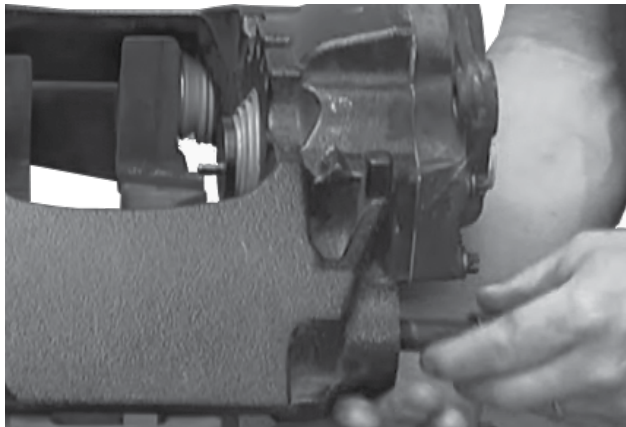

Figure 67: Installing guide pin screws
Always tighten the longer guide pin first, then the shorter guide pin (Figure 67). If the guide pins are removed from the brake carrier during maintenance work, new screws must be used.
2. **Insert** a new long guide pin screw (Figure 67) through the long guide pin and thread into the brake carrier (Figure 67). **Snug** screw with wrench. Refer to APPENDIX A: WRENCH SIZE AND TIGHTENING TORQUES on page 36, item IV.
4. **Torque** the screws into the brake carrier (Figure 67); long screw first. Refer to APPENDIX A: WRENCH SIZE AND TIGHTENING TORQUES on page 36, item IV.